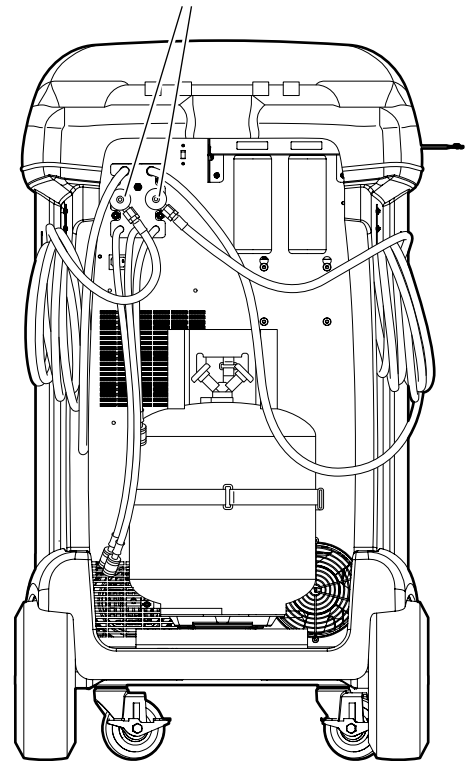

Figure 5
2. Connect the service hoses to the machine's storage port connections as shown in Figure 5.